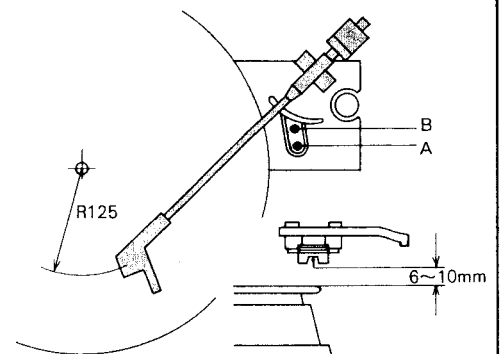

Fig. 6
- (a) Set the cueing knob to  $\nabla$  position and move the tonearm over the record surface (Fig. 6). The clearance between the stylus point and the record should measure between 6–10 mm (0.24–0.39 in.). This dimension is set by screw A (Fig. 6).
- (b) Move the tonearm to the end of the record and slowly rotate the turntable platter until the tonearm starts returning. Stop the platter rotation when the tonearm is in the approximate position as above. Again measure the distance between the stylus point and the record surface. This measurement should be approximately the same clearance 6–10 mm (0.24–0.39 in.). If the height needs to be adjusted, adjust screw B (Fig. 6).